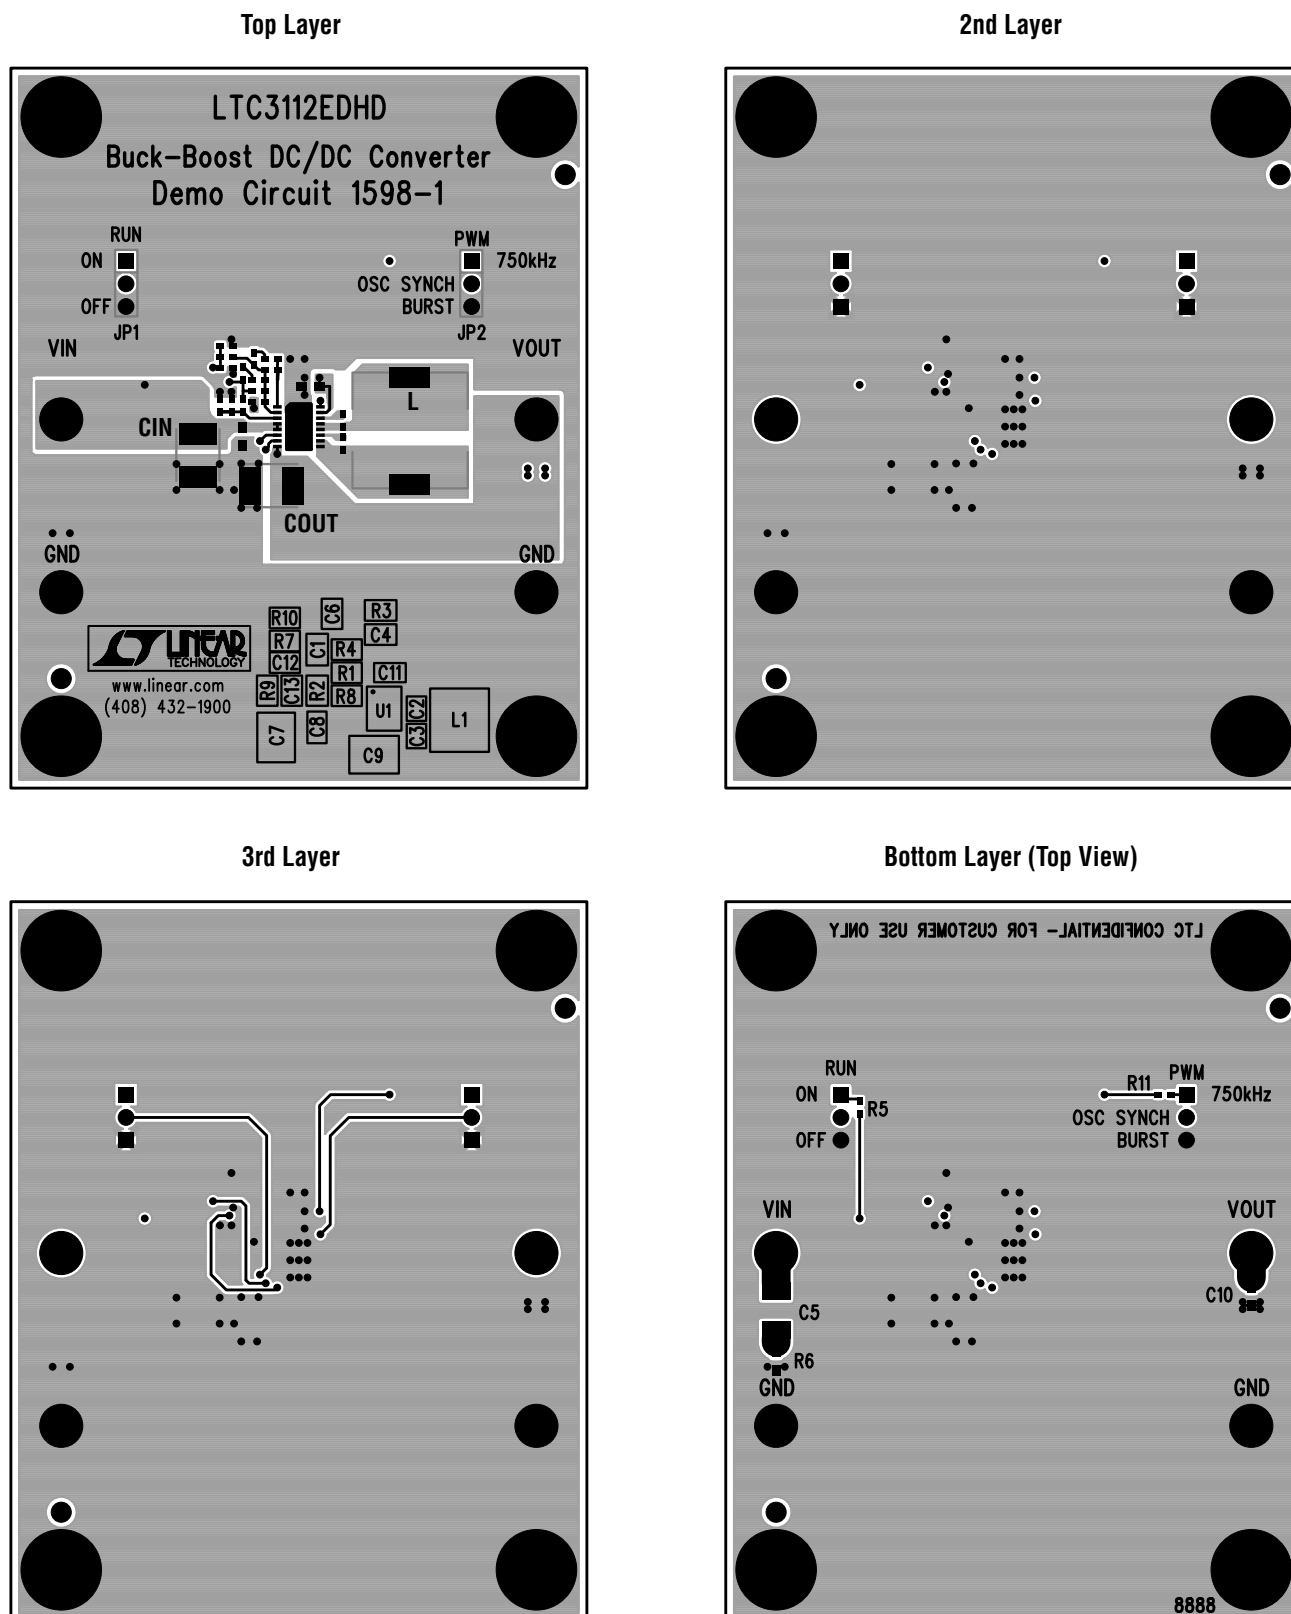

Figure 3. Example PCB Layout
The temperature rise curves given in the Typical Performance Characteristics section can be used as a general guide to predict junction temperature rise from ambient. These curves were generated by mounting the LTC3112 to the 4-layer FR4 Demo Board printed circuit board layout shown in Figure 3. The curves were taken with the board at room temperature, elevated ambient temperatures will result in greater thermal rise rates due to increased initial $R_{DS(ON)}$ of the N-Channel MOSFETs. The die temperature of the LTC3112 should be kept below the maximum junction rating of 150°C.
The LTC3112 switches large currents at high frequencies. Special attention should be paid to the PCB layout to ensure a stable, noise-free and efficient application circuit. Figure 3 presents a representative 4-layer PCB layout to outline some of the primary considerations. A few key guidelines are outlined below:
plane should be placed directly under the V_{IN} , V_{OUT} , SW1 and SW2 traces to provide a mirror plane to minimize noise loops from high dI/dt and dV/dt edges (see Figure 3, 2nd layer).
2. All circulating high current paths should be kept as short as possible. Capacitor ground connections should via down to the ground plane in the shortest route possible. The bypass capacitors on V_{IN} should be placed as close to the IC as possible and should have the shortest possible paths to ground (see Figure 3, top layer).
8. Crossover connections should be made on inner copper layers if available. If it is necessary to place these on the ground plane, make the trace on the ground plane as short as possible to minimize the disruption to the ground plane (see Figure 3, 3rd layer).